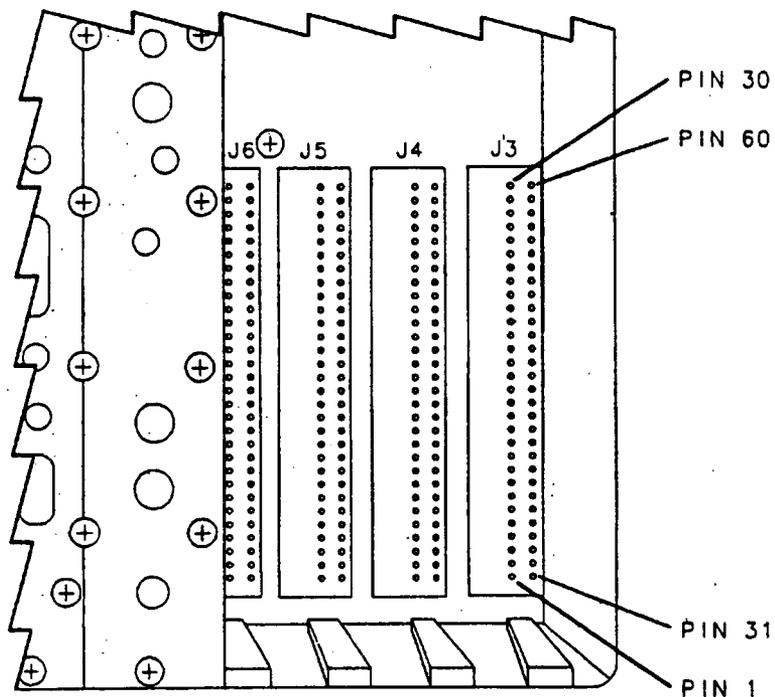

Figure 8-4. Card-Cage Connector Pin Designation
- **Figure 8-4, Card-Cage Connector Pin Designation.** Provides the pin-numbering sequence for the four motherboard connectors in the card cage. The motherboard connector for the A7 Analog Interface assembly (not shown) has the same pin-numbering sequence, but is installed in a position that is reversed when compared to the card-cage connectors.